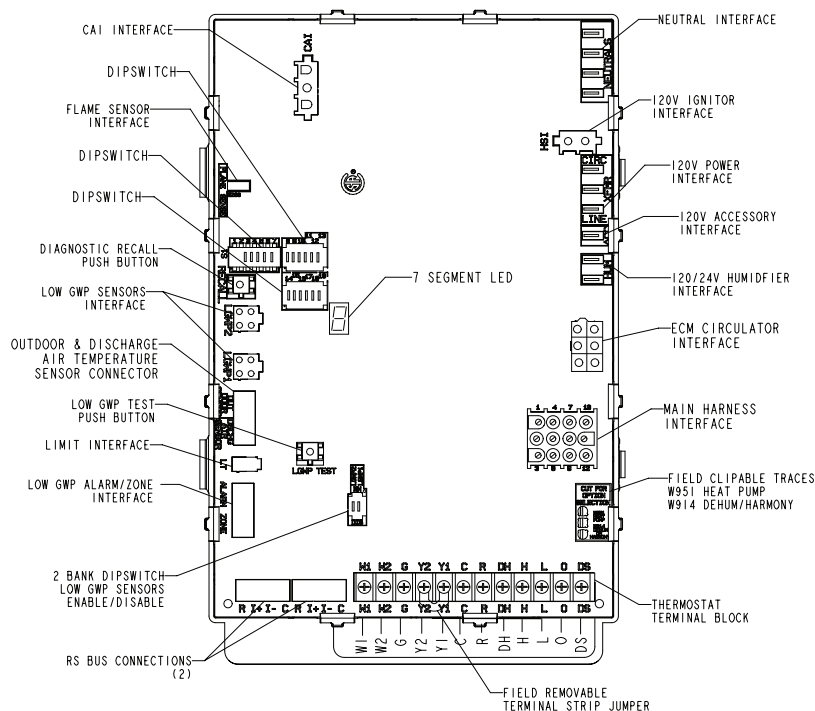

FIGURE 50
- 7 - One line voltage "EAC" 1/4" spade terminal is provided on the furnace integrated control. Any electronic air cleaner rated up to one amp can be connected to this terminal with the neutral leg of the circuit being connected to one of the provided neutral terminals. See FIGURE 50 for location of terminal. This terminal is energized when the indoor blower is operating.
- 8 - One line voltage "HUM" 1/4" spade terminal is provided on the furnace integrated control. Any humidifier rated up to one amp can be connected to this terminal with the neutral leg of the circuit being connected to one of the provided neutral terminals. See FIGURE 50 for location of terminal. This terminal is energized in the heating mode when the indoor blower is operating.
- 9 - One 24V "H" terminal is provided on the furnace integrated control terminal block. Any humidifier rated up to 0.5 amp can be connected to this terminal with the ground leg of the circuit being connected to either ground or the "C" terminal. See FIGURE 50 for location of terminal.